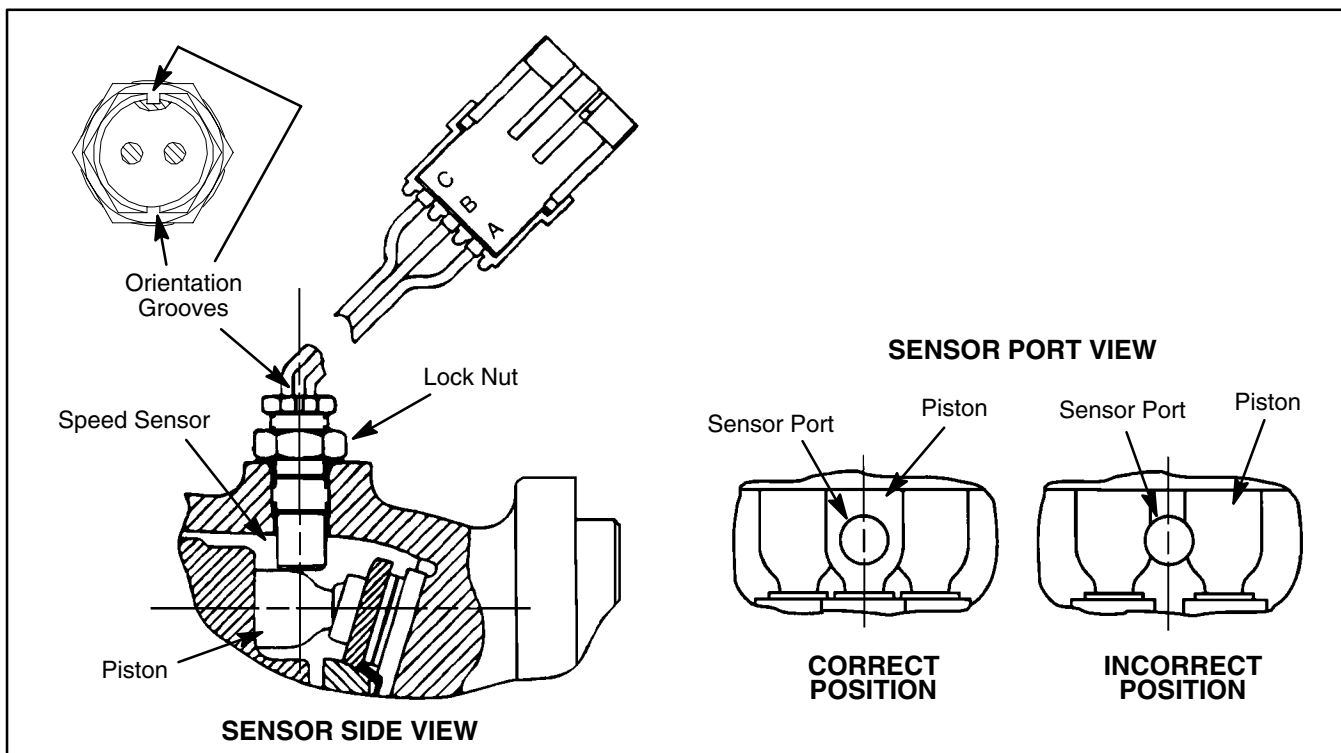

Figure 37
2. Center a wheel motor piston in the center of the sensor port (see Sensor Port View in Fig. 37). **NOTE:** If the motor is on the machine, use a suitable tool to feel when a motor piston is in the center of the sensor port.